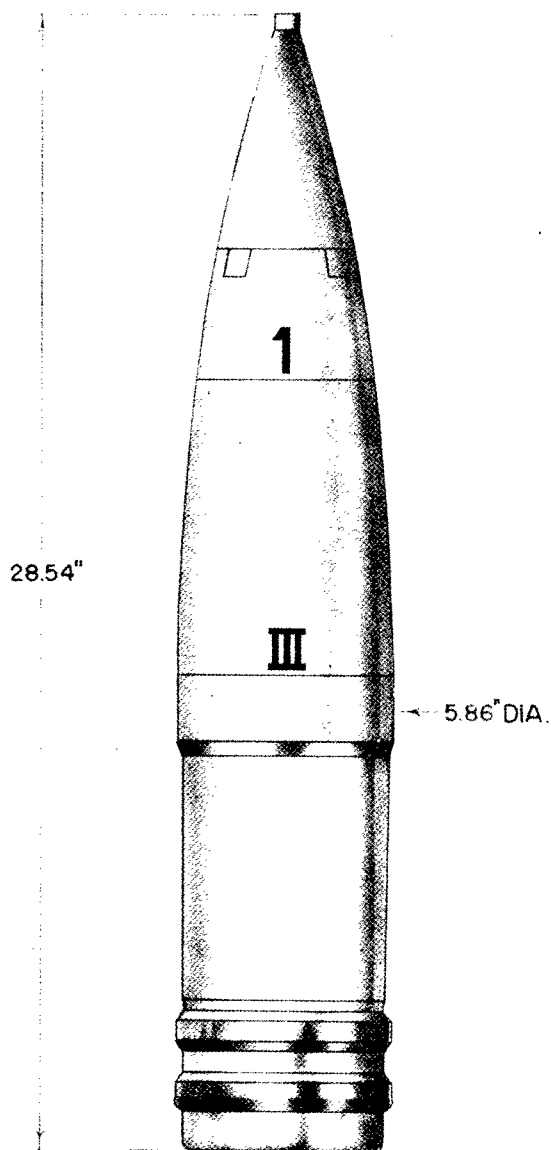

Figure 505—H. E. Projectile for Gun 16, 150-mm, 15-cm Hbgr. 16
**GERMAN NOMENCLATURE:** 15-cm Hbgr. 16 (Haubitzergranate 16). (See fig. 505.)